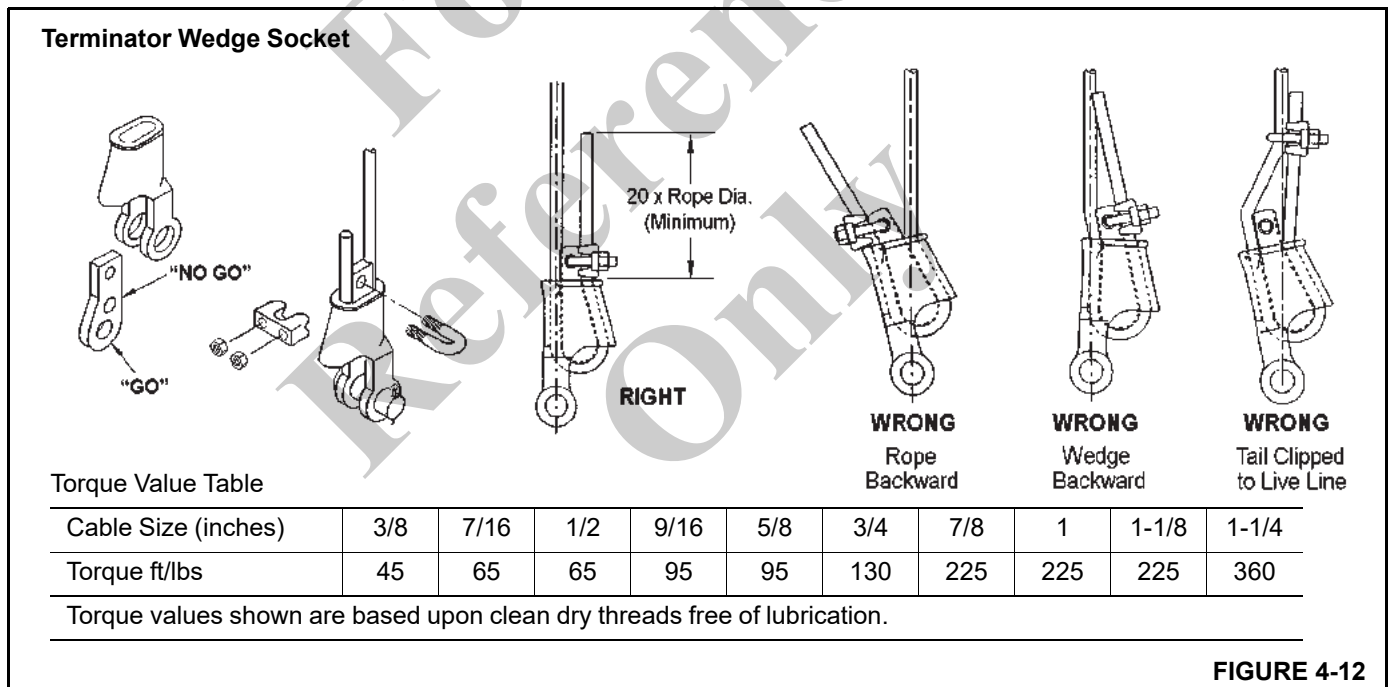

FIGURE 4-12
(Figure 4-12). Other wedge socket types are discussed under *Wedge Socket Installation*, page 4-21.
To attach a terminator wedge (Figure 4-12), use the following procedure:
4. Tighten nuts on clip to recommended torque (Figure 4-12).